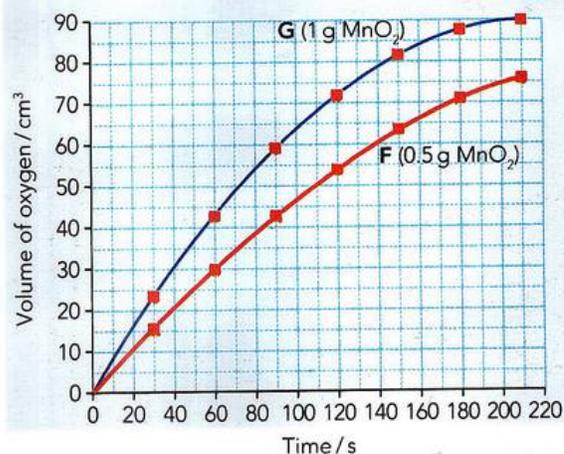

Figure 8.15: Increasing the amount of catalyst increases the rate of reaction.
If the amount of MnO_2 powder added is doubled (experiment G), the rate of reaction increases (Figure 8.15). If the powder is more finely divided (powdered), the reaction also speeds up. Both these results suggest that it is the surface of the manganese(IV) oxide powder that is important here. By increasing the surface area, the rate of reaction is increased. We say that manganese(IV) oxide is a catalyst for this reaction.